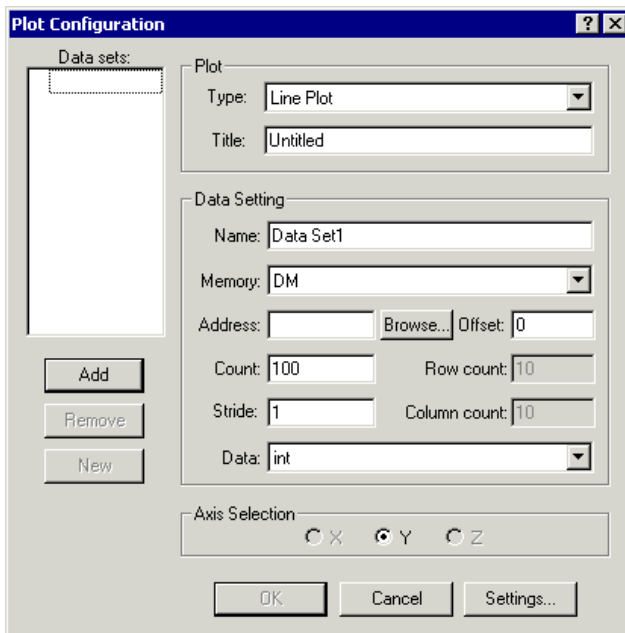

Figure 2-25. Plot Configuration Dialog Box
1. From the **View** menu, choose **Debug Windows** and **Plot**. Then choose **New** to open the **Plot Configuration** dialog box, shown in Figure 2-25 on page 2-36.